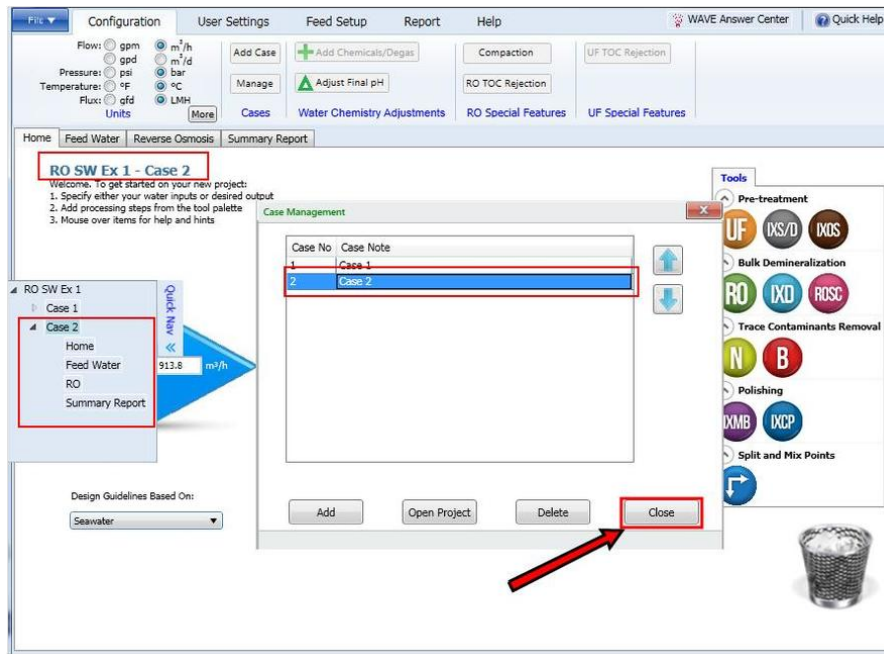

Figure 193. New case creation and where the user is notified
3. After the case is created, click on “Close” (Figure 193).
- Users can see that a new case is created by looking at the name of the project displayed at the Case Management window and the Quick Nav window (as shown in Figure 193).